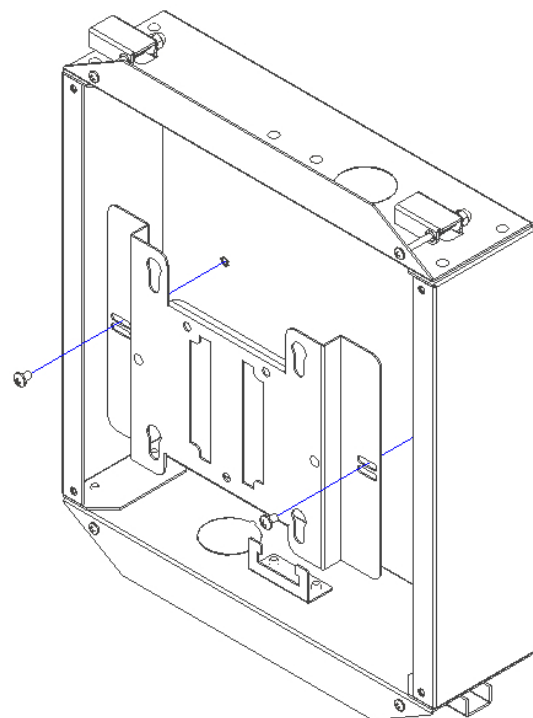

Figure 2 - Bracket Attachment
Step 4 - Fasten the mounting bracket to the back box using the provided #8-32 screws (Figure 2). **NOTE:** the mounting bracket may also accommodate Cisco AIR-AP-BRACKET-2 by fastening directly to the Oberon mounting bracket.